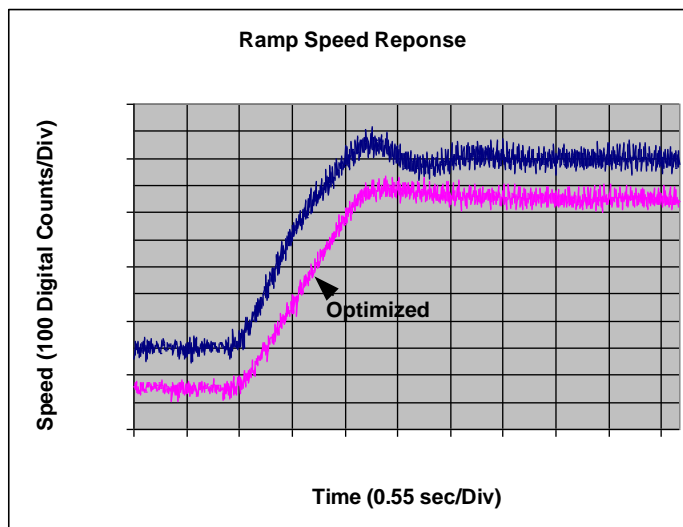

Figure 26—Comparison of Optimized and Non-optimized Speed Response
- 3) Figure 26 shows ramp speed response with non-optimized (KpSreg = Kp1, KxSreg = Kx1) and optimized (KpSreg = Kp3, KxSreg = Kx3) speed regulator gains. A tighter control response is exhibited due to the gain optimization.
- 4) It may be noticed that there is still slight overshoot on the optimized Ramp Speed response (Figure 26). Most applications can tolerate a slight overshoot (<10%).